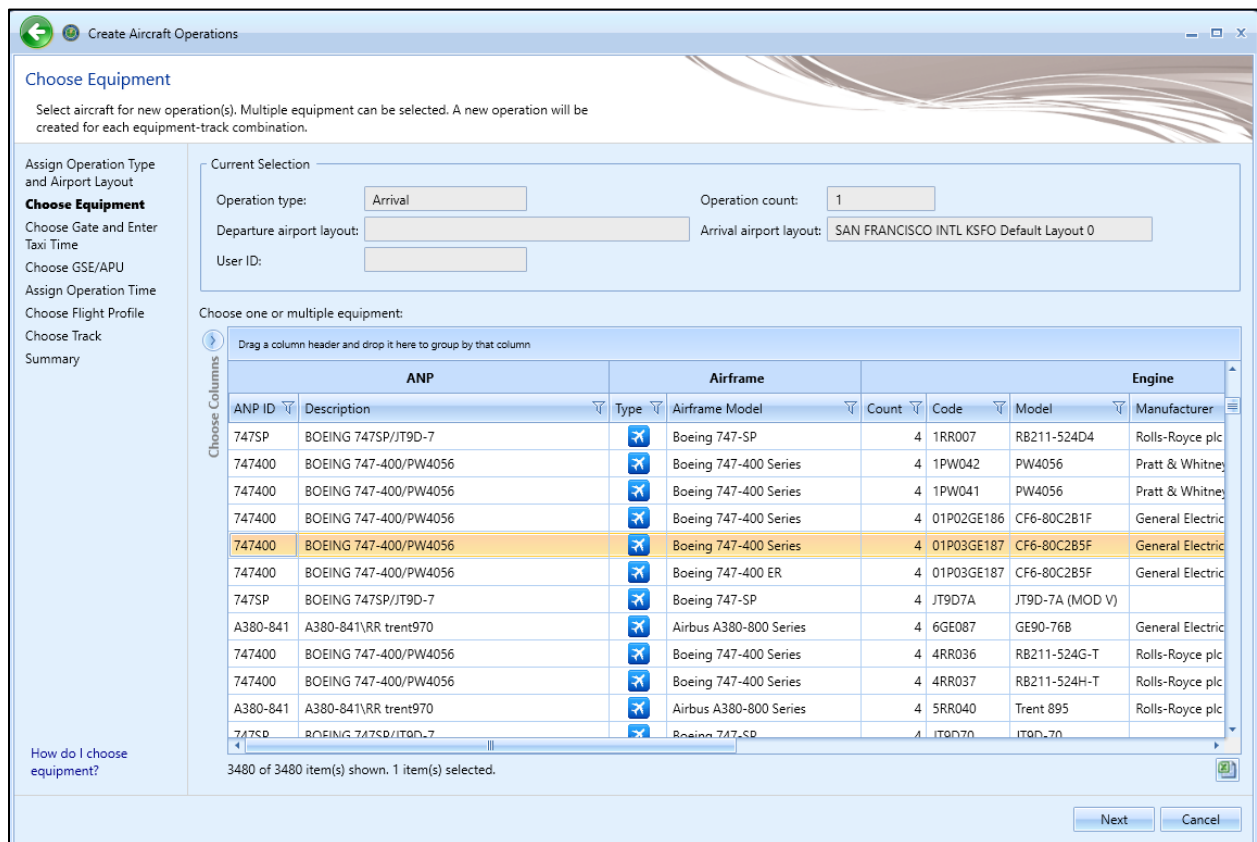
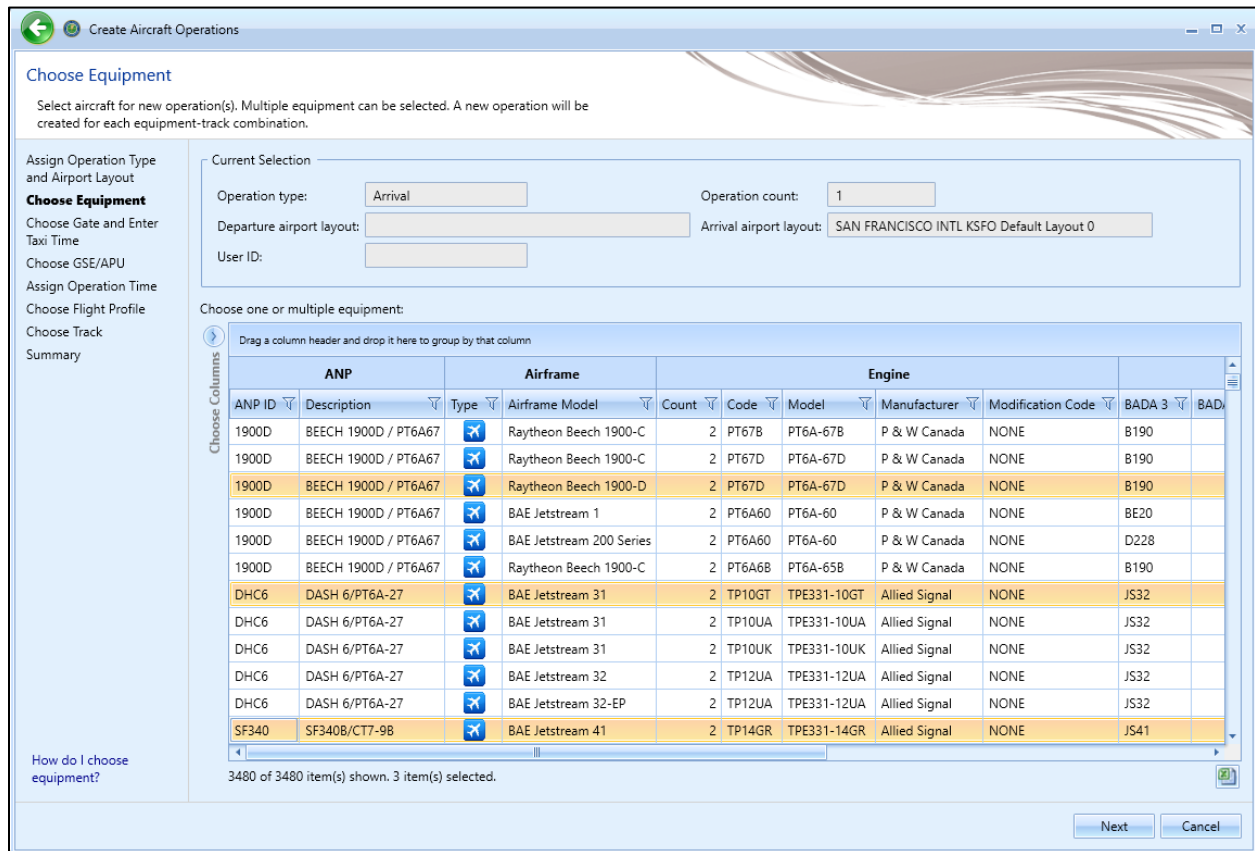

Figure 6-6 Create Aircraft Operation – Choose Equipment (Single)
Figure 6-7 Create Aircraft Operation – Choose Equipment (Bulk)
1. Select the desired aircraft from the *Choose equipment* list (Figure 6-6). Multiple aircraft can be selected in this step for bulk operation creation (Figure 6-7). To deselect equipment, click on the highlighted entry again.